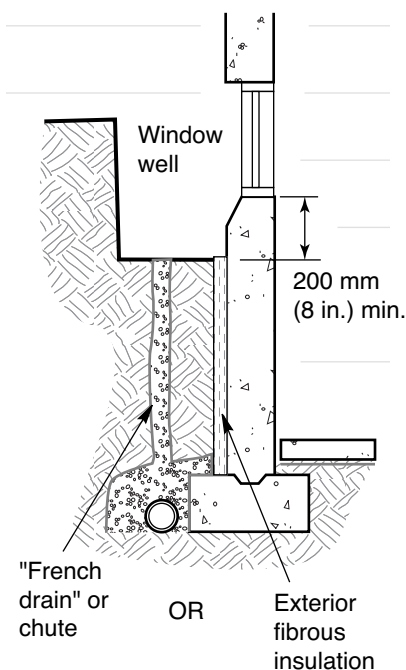

FIGURE 24
- ◆ Ensure that drainage from window wells is connected to drainage tiles. Prevent water from accumulating at the junction of the footing and the foundation wall. Provide a "French drain," a vertical gravel- or drainage-material-filled weeper (see Figure 24).